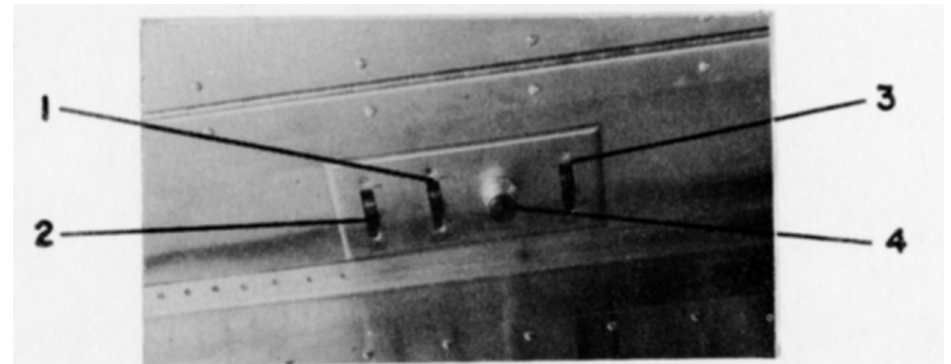
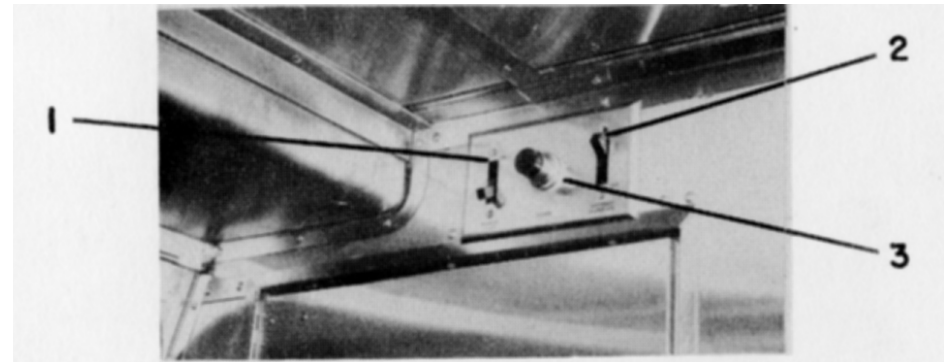

FIG. 42
FIG.43
Vestibule Ceiling Light Switch 'A' end (2) Fig. 43, OFF-ON.
Marker Light Switch is located in each vestibule (2) Fig. 42 for 'B' end, and (1) Fig. 43 for 'A' end.
A single back-up light is provided on the 'B' end of car. It is controlled by Back-up Light switch (3) Fig. 42, OFF-ON.
Push button control panels are located in each vestibule, one at the 'B' end (4) Fig. 42 and the other at 'A' end (3) Fig. 43 above electric locker door. Also, a push button is located on each console panel (36) Fig. 1.